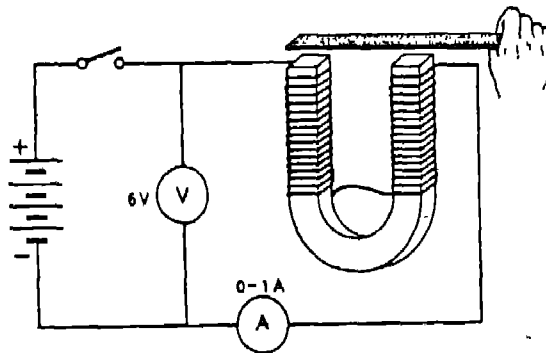

Fig. 14.1 U-Shaped Electromagnet
- (vi) Connect coil ends to the DC source with ammeter in series as shown in Fig 14.1